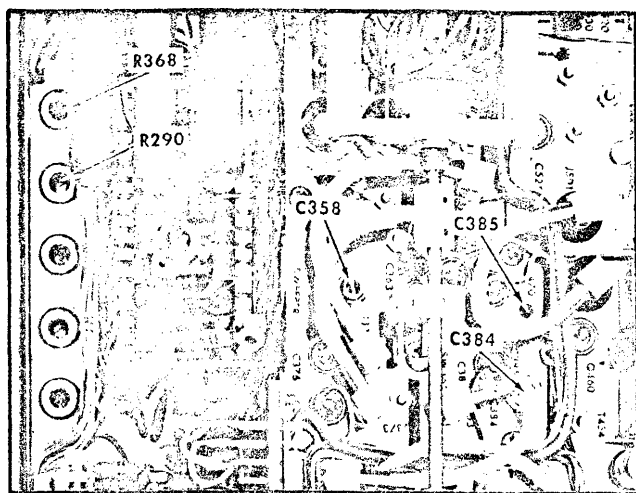
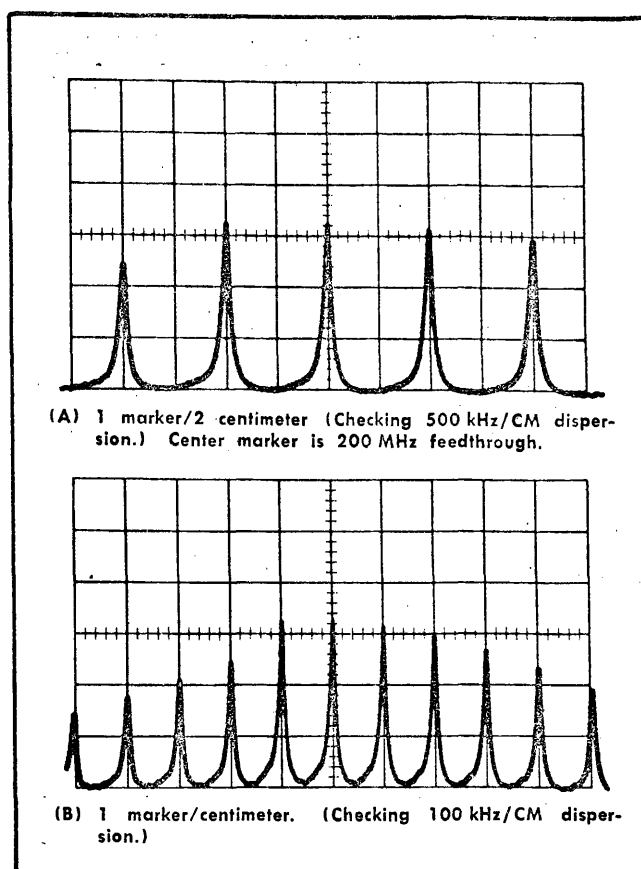

Fig. 6-14. Location of kHz/CM dispersion adjustments.
Fig. 6-15. Typical displays when checking or adjusting kHz/CM dispersion.
- Adjust C384 and C385 (Fig. 6-14) for 1 marker/2 centimeters (Fig. 6-15). Adjust these capacitors simultaneously in opposite directions. This will keep the 200 MHz feed-through signal centered in the graticule area.
- Adjust the kHz/CM Cal R368 (Fig. 6-14) for optimum dispersion linearity. See Fig. 6-15.